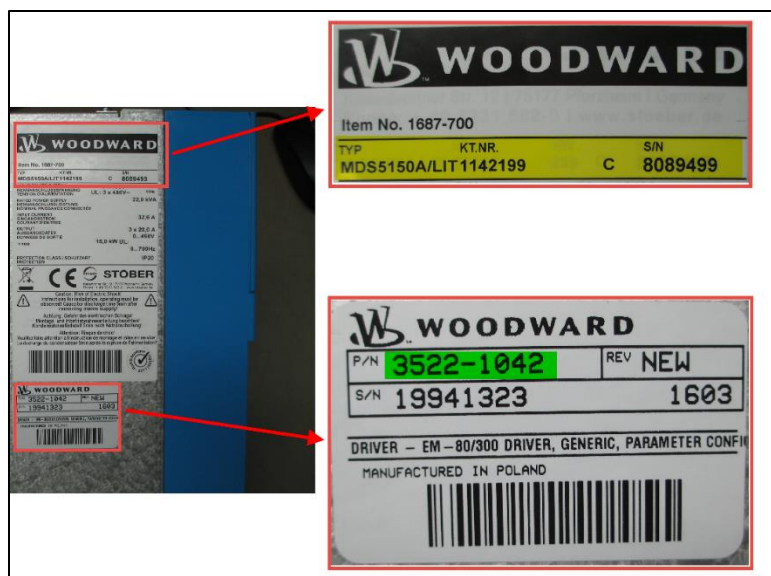

Figure 2-1. Part Number Locations on Product Label
1. EM-80/EM-300 part number (**green** area noted in Figure 2-1)
2. Stöber MDS driver part number and serial number (**yellow** area noted in Figure 2-1)